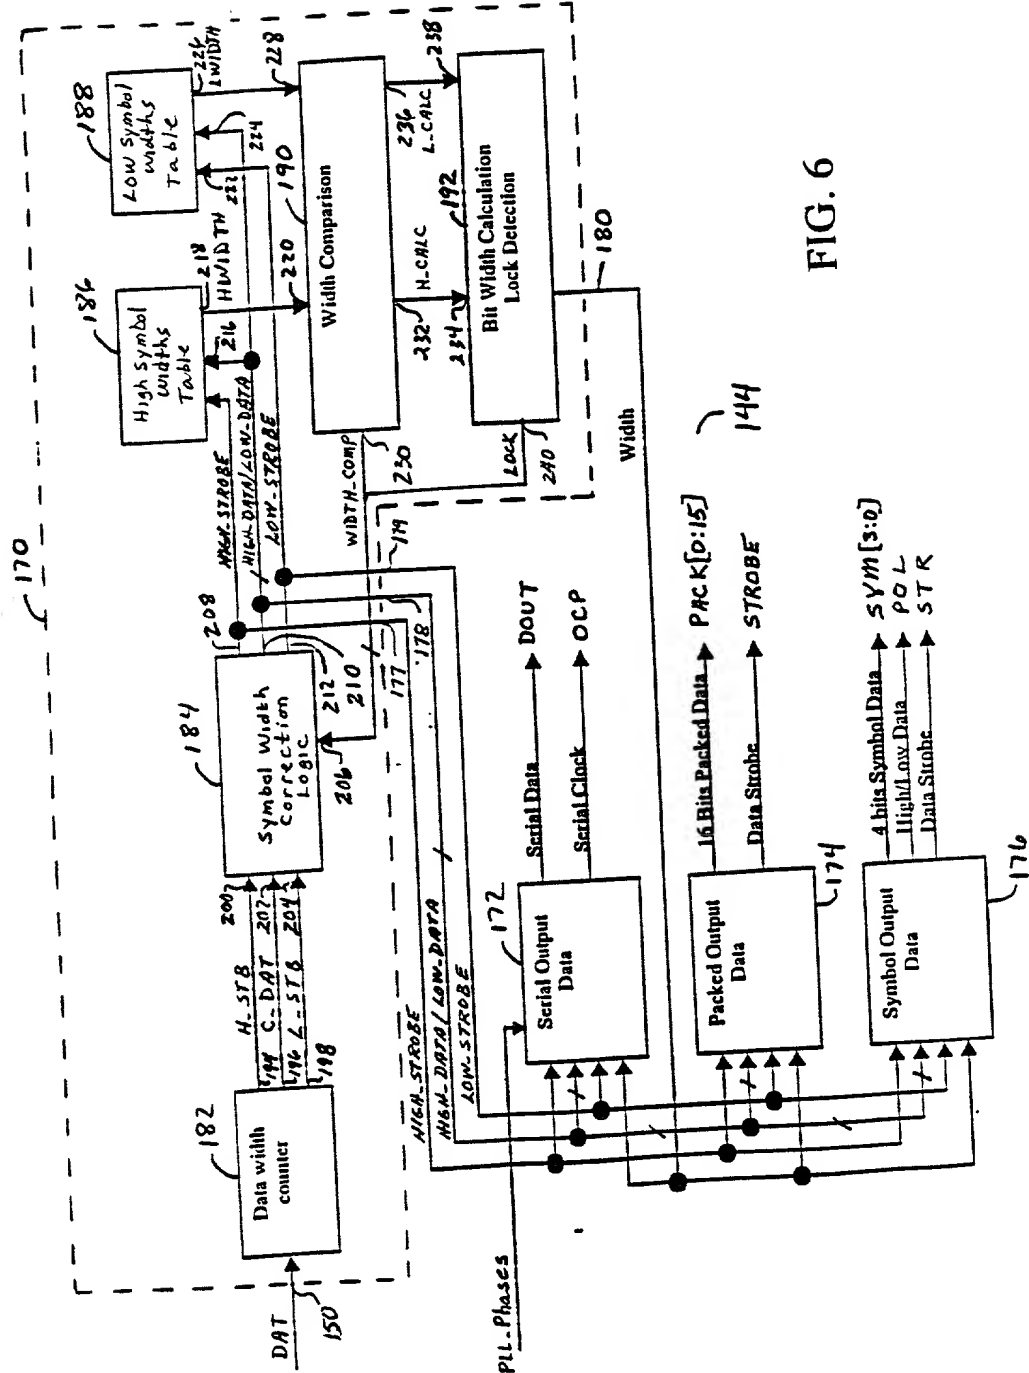

FIG. 6
FIG. 6 is a block diagram of a symbol width lock detection circuit. The circuit is divided into three main sections: 170, 180, and 144. Section 170 (enclosed in a dashed box) contains a Data width counter (182) and Symbol width correction logic (184). The Data width counter (182) receives a DAT signal (150) and outputs H-STB (200), H-C-DAT (207), and L-STB (204). The Symbol width correction logic (184) receives H-STB (200), H-C-DAT (207), and L-STB (204) and outputs H-WIDTH (218), H-WIDTH (221), and L-WIDTH (228). Section 180 (enclosed in a dashed box) contains a High Symbol Widths Table (186), a Low Symbol Widths Table (188), a Width Comparison block (190), an H-CALC block (232), an L-CALC block (236), and a Bit Width Calculation Lock Detection block (192). The High Symbol Widths Table (186) receives H-WIDTH (218) and outputs H-WIDTH (221). The Low Symbol Widths Table (188) receives L-WIDTH (228) and outputs L-WIDTH (234). The Width Comparison block (190) receives H-WIDTH (221) and L-WIDTH (234) and outputs H-CALC (232) and L-CALC (236). The H-CALC block (232) outputs H-CALC (234) to the Bit Width Calculation Lock Detection block (192). The L-CALC block (236) outputs L-CALC (238) to the Bit Width Calculation Lock Detection block (192). The Bit Width Calculation Lock Detection block (192) outputs a LOCK signal (240). Section 144 (enclosed in a dashed box) contains a Serial Output Data block (172), a Packed Output Data block (174), and a Symbol Output Data block (176). The Serial Output Data block (172) receives H-HIGH-DATA/LOW-DATA (177) and L-HIGH-DATA/LOW-DATA (178) and outputs Serial Data (172) and Serial Clock (172). The Packed Output Data block (174) receives H-HIGH-DATA/LOW-DATA (177) and L-HIGH-DATA/LOW-DATA (178) and outputs 16 Bits Packed Data (144) and Data Strobe (144). The Symbol Output Data block (176) receives H-HIGH-DATA/LOW-DATA (177) and L-HIGH-DATA/LOW-DATA (178) and outputs 4 bits Symbol Data (176), High/Low Data (176), and Data Strobe (176). The circuit is controlled by PLL-Phases (150).